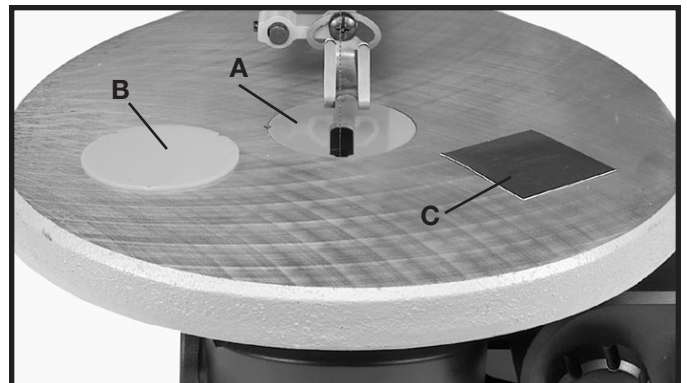

Fig. 20
A blank table insert (B) Fig. 20, is supplied as standard equipment with your scroll saw and can be used when cutting very small workpieces to give added support to the bottom of the workpiece. Cut a slot into the blank and replace the standard insert (A) with the blank (B). The slot cut into the blank (B) will only be as wide as the blade giving maximum support to the bottom of the workpiece. Adhesive backed spacer pads (C) are also supplied for adjusting the table insert height relative to the table surface. Place three pads an equal distance apart on a cleaned surface to be applied to the blank insert. Pads can be stacked in order to achieve desired insert height.